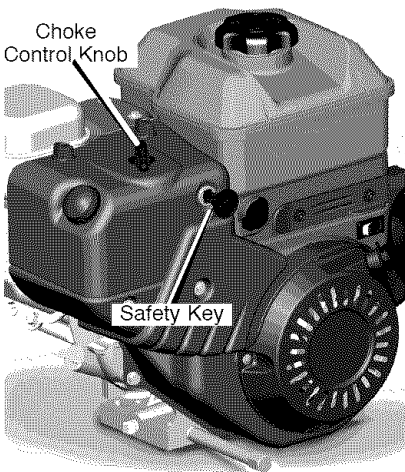

Figure 22
1. Remove the choke control knob (see Figure 22).